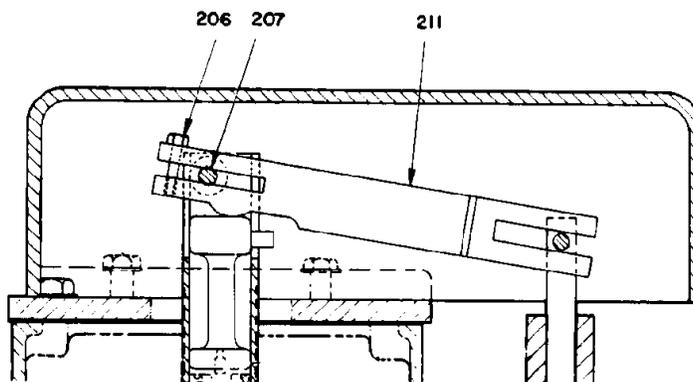

Figure 2-2. Speed Droop Adjustment
Adjust the governor speed droop by loosening clamp screw (206, Figure 2-2) and changing the position of the cam on the speed droop lever (211) with respect to the speed droop lever shaft (207). Move the cam away from the shaft to increase the droop, and toward the shaft to decrease the droop. If the center of the cam coincides with the center of the shaft, zero droop results and the governor will provide isochronous (constant speed) operation.